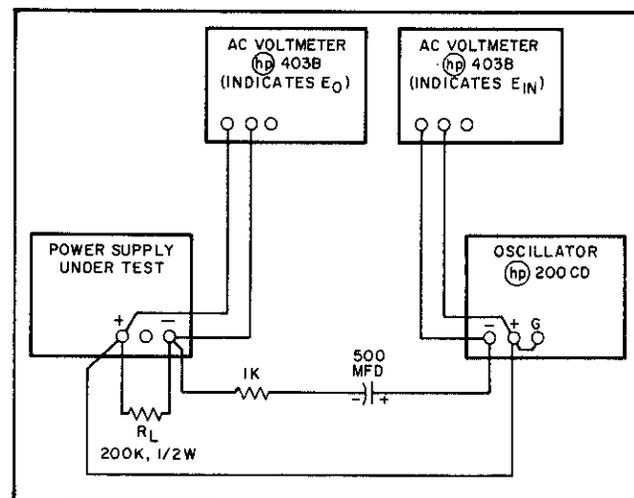

Figure 5-9. Output Impedance, Test Setup
a. Connect the test setup shown in Figure 5-9. The best method of connecting the load resistor, oscillator, and AC voltmeter to the power supply is